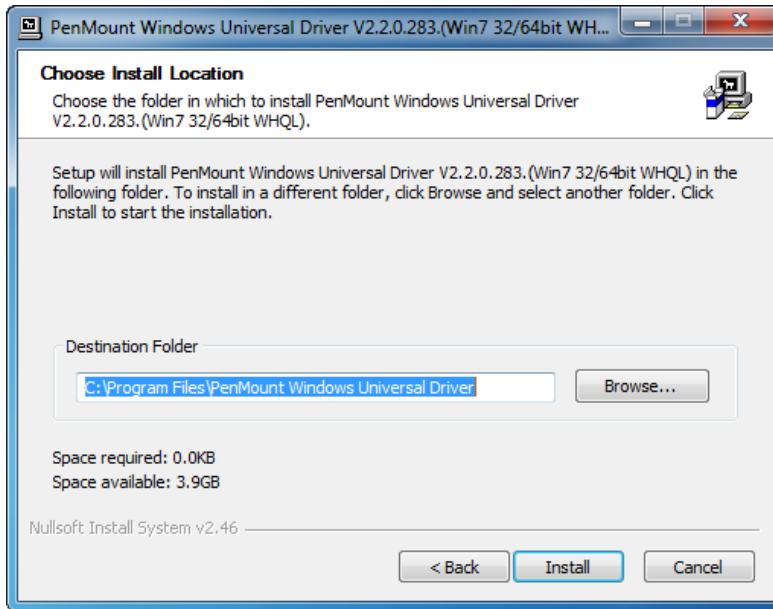

Figure 5-14: Touch Screen Driver Choose Install Location
Step 8: Browse for an install location or use the one suggested (**Figure 5-14**).